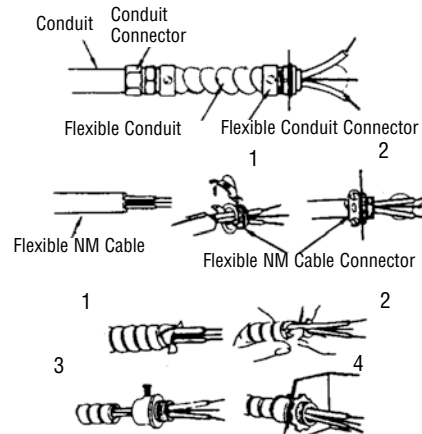

Figure 2 - Connectors, cable, and hardware used to wire the MWUH
**NOTE:** For certain applications, conduit may be required (see Figure 2). Check local electrical codes. If wiring is run in conduit, be sure there is enough flexible conduit to allow the heater to be turned if necessary.
2. Attach the cable connectors to the unit (See Figure 2) and slide the 10 gauge wire through the cable connector. Pull enough wire through the connector to work with when making the connections.